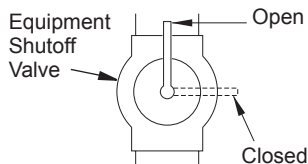

Figure 15 - Equipment Shutoff Valve
1. Close equipment shutoff valve (see Figure 15).
1. Open equipment shutoff valve (see Figure 15, page 15).
3. Close equipment shutoff valve (see Figure 15, page 15).